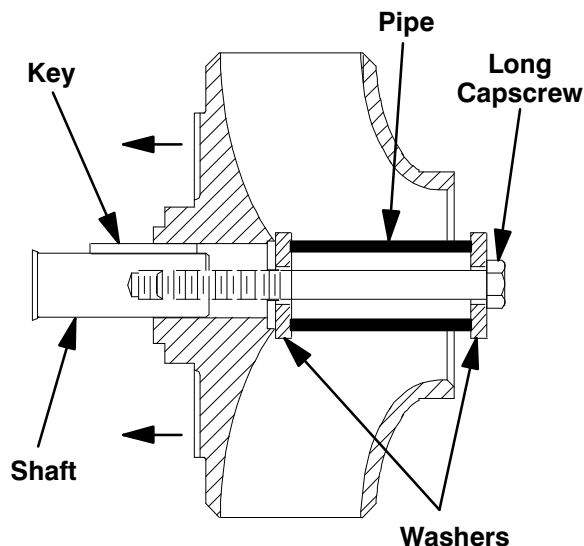

Figure 9. Installing Impeller
Install the impeller key (44) and position the impeller on the shaft. See Figure 9, and use a section of pipe, washers and a long capscrew (same thread size as the impeller lock screw) to press the impeller onto the shaft until fully seated (**do not use the impeller lock screw**). Make sure the seal spacer and spring seat squarely over the step on the back side of the impeller.